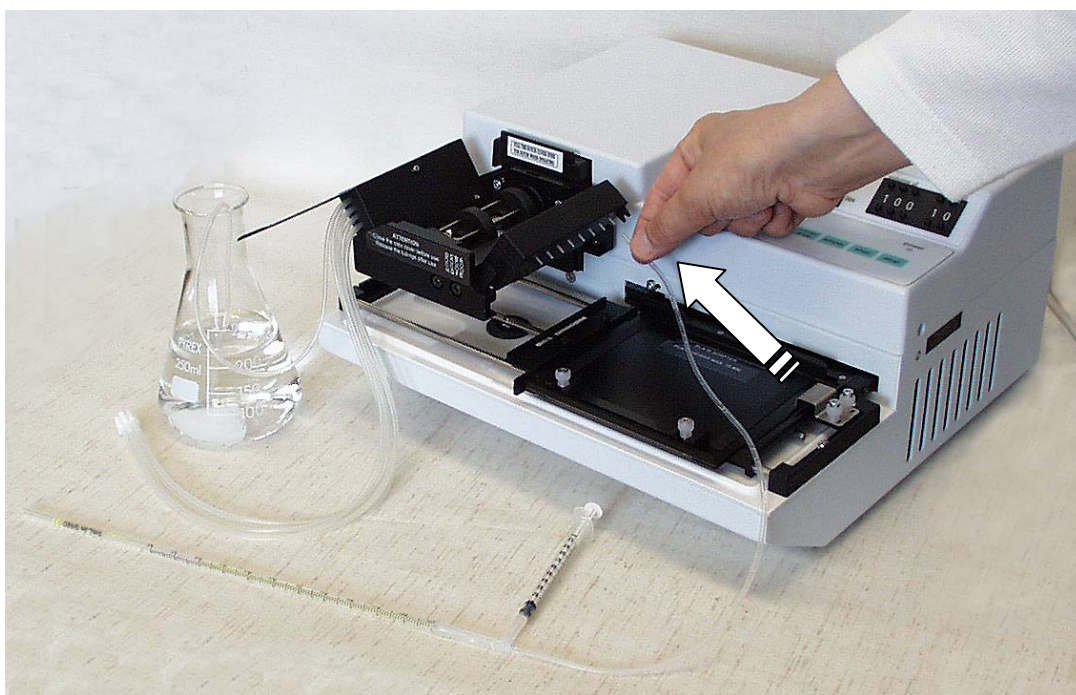

Fig. 7.5 Placing the tube onto the tip of channel A
3. Install the tube of the calibration device into the tip of the channel to be recalibrated (*Fig. 7.5*), for example, A.